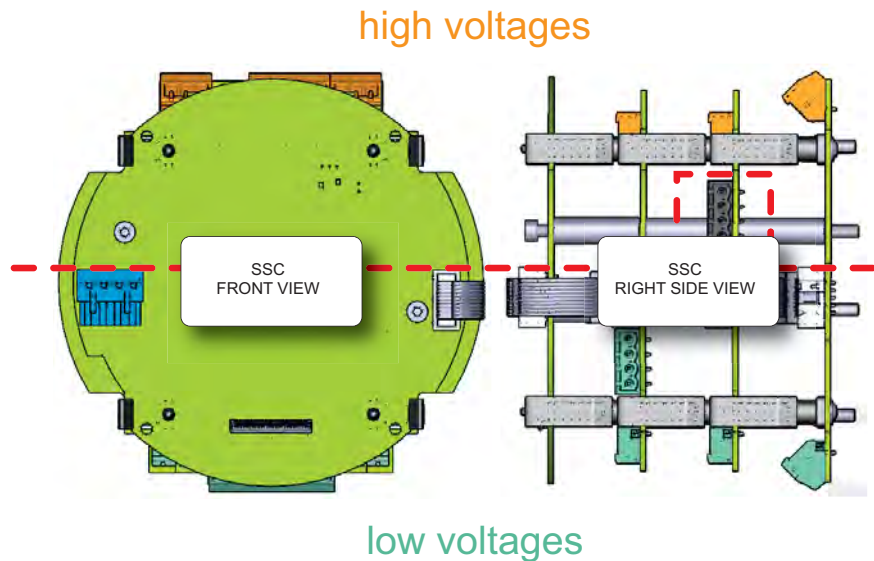

FIGURE 4-8
- In order to limit interference between low and high voltage signals, a logical separation between cables carrying these signals has been created. See FIGURE 4-8.